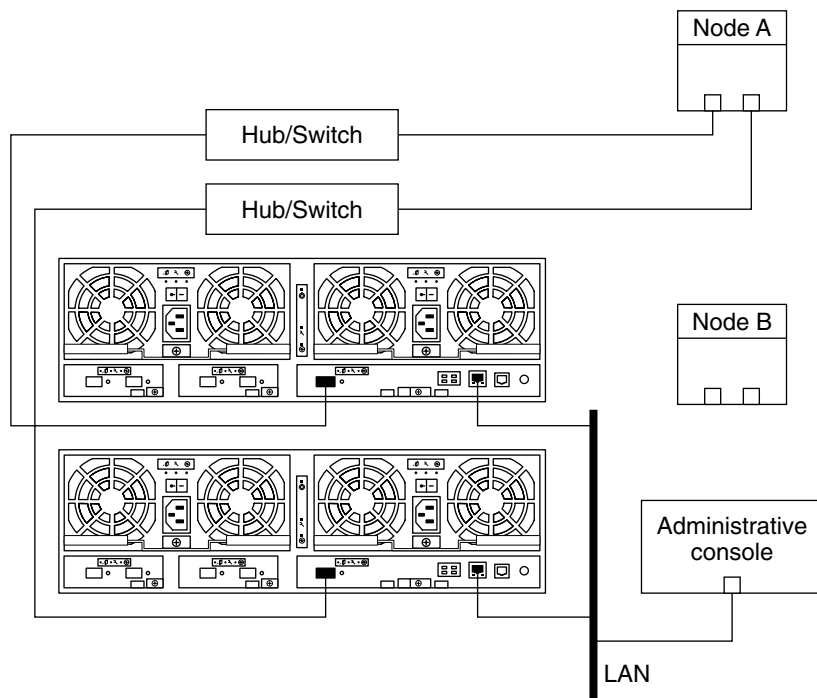

FIGURE 1-4 Adding a Single-Controller Configuration: Part II
21. Connect a fiber-optic cable between the FC hub/switch and Node A, as shown in Figure 1-4.